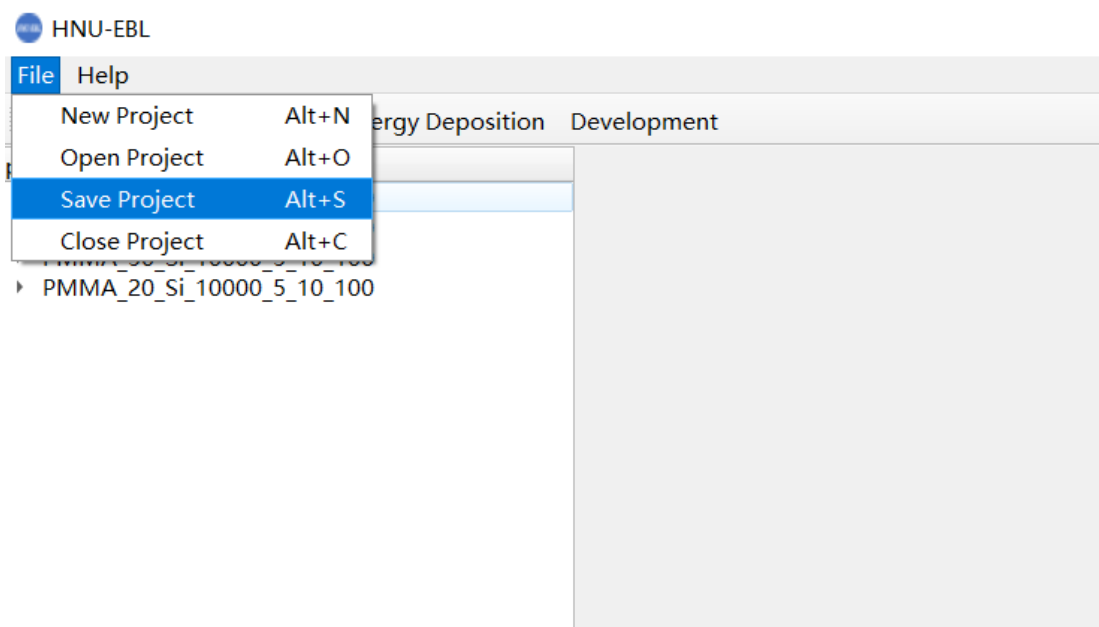

Figure 2.3.3 Save Monte Carlo calculation results interface
(3) After the MC simulation is completed, you can click "Save Project" in the "File" at the top of the main interface of the software to save the simulation results (Figure 2.3.3). (Note: Please click the "Save Project" button to save the project in time.)